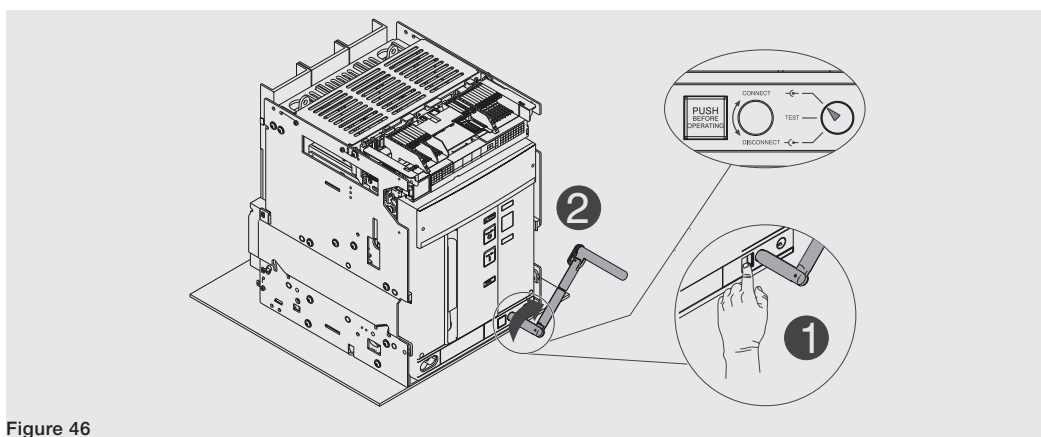

Figure 46
10. Press the lock button and rotate the crank clockwise until the pushbutton comes out and the indicator shows that the circuit-breaker is in **CONNECT** position. See Figure 46.